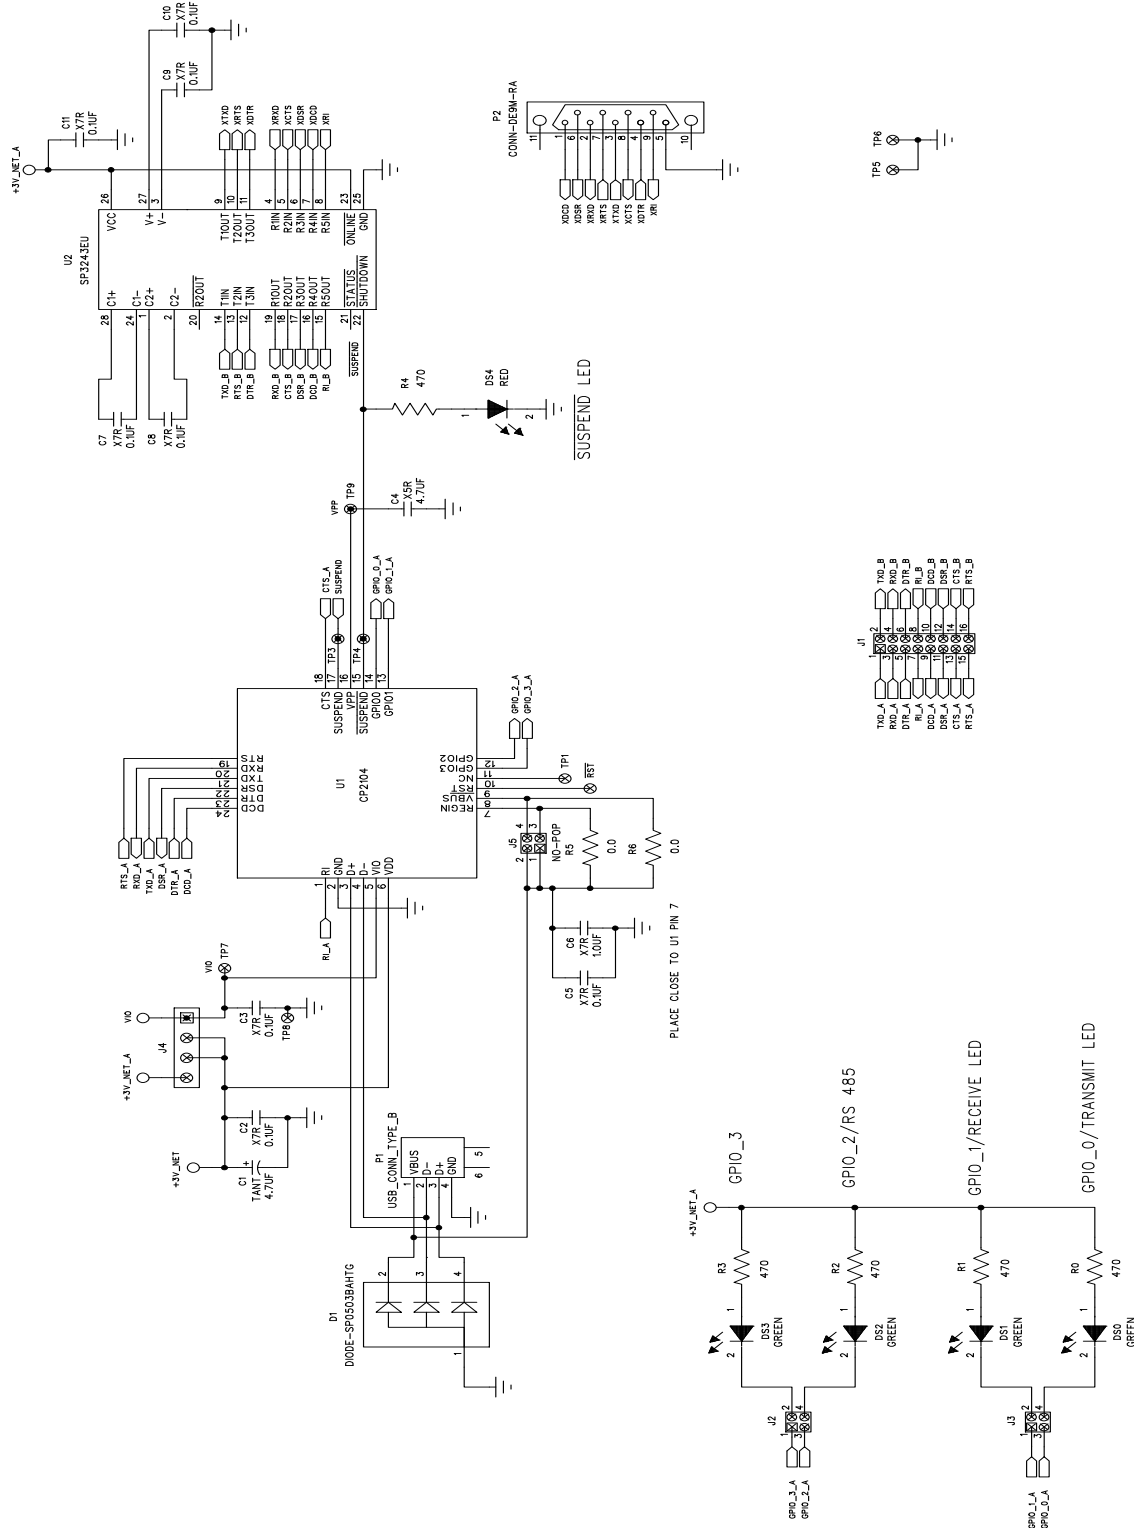

Figure 4. CP2104 Evaluation Board Schematic
- Updated J4 in Figure 4, "CP2104 Evaluation Board Schematic," on page 6.